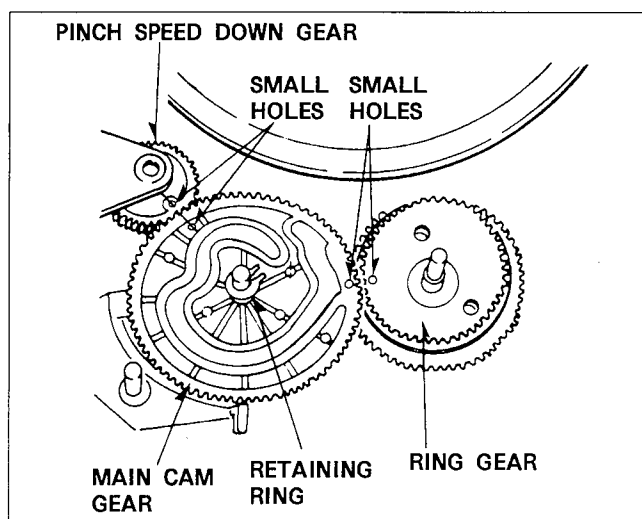

Figure M41
1. Install the Main Cam Gear on to the Sub Cam Gear so that the small hole on the Main Cam Gear aligns with small hole on the Ring Gear as shown in Figure M41.
3. Install the Pinch Speed Down Gear from top side of chassis so that the small hole on the Main Cam Gear as shown in Figure M41.